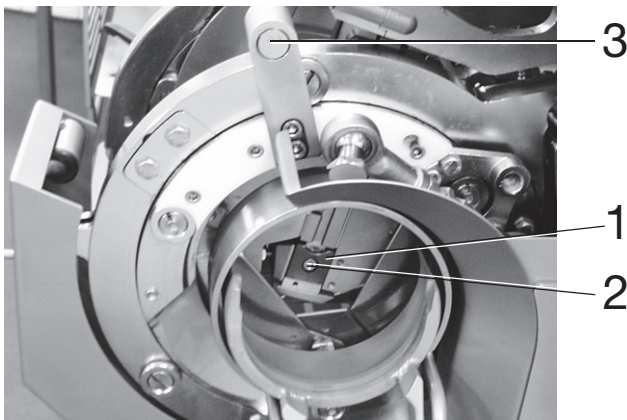

Fig. 7-21 1 Die
- Unscrew the fixing screw (2, Fig. 7-21) on the die (5 mm Allen key).